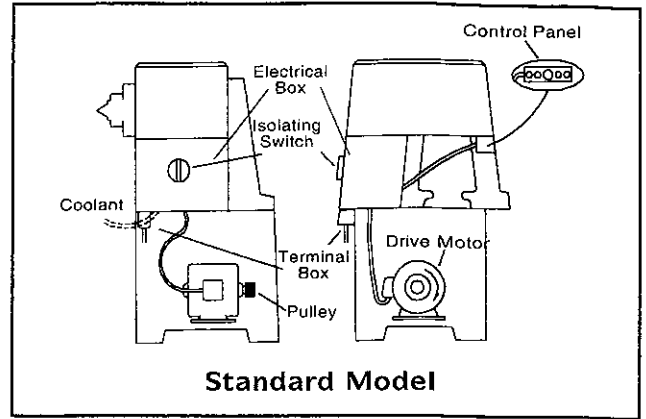

Fig.3
**ELECTRIC SUPPLY CONNECTION (Fig.3,4,5)**